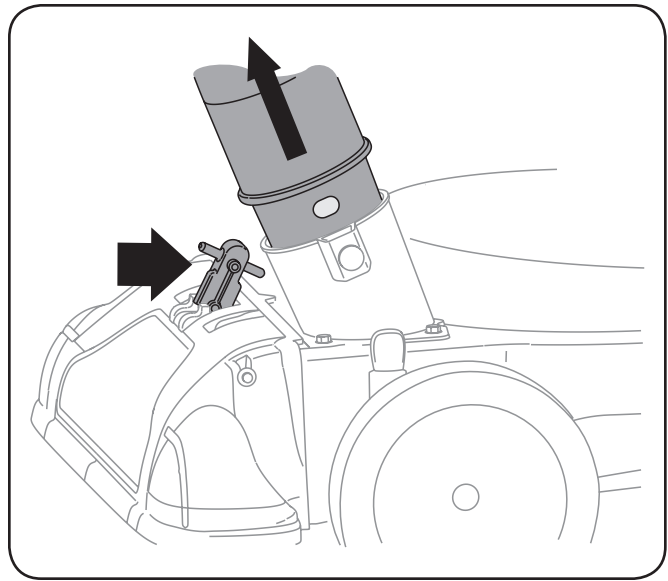

Figure 5-3
1. Place nozzle/hose vac lever in the top position on the nozzle to vacuum through nozzle. See Fig. 5-3.
2. The spring loaded pin must be in the first hole (closest to the end of the tube) of the hose adapter to operate the nozzle vac. See Fig. 5-3.